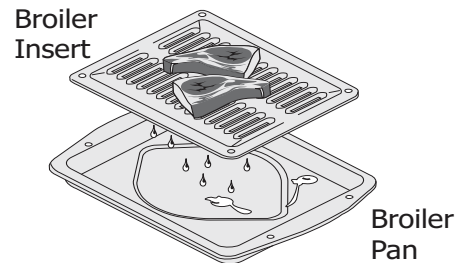

Figure 5: Broiling accessories
- Always use the broiler pan and its insert when broiling. It allows the dripping grease to be kept away from the high heat of the broil element (See Figure 5).